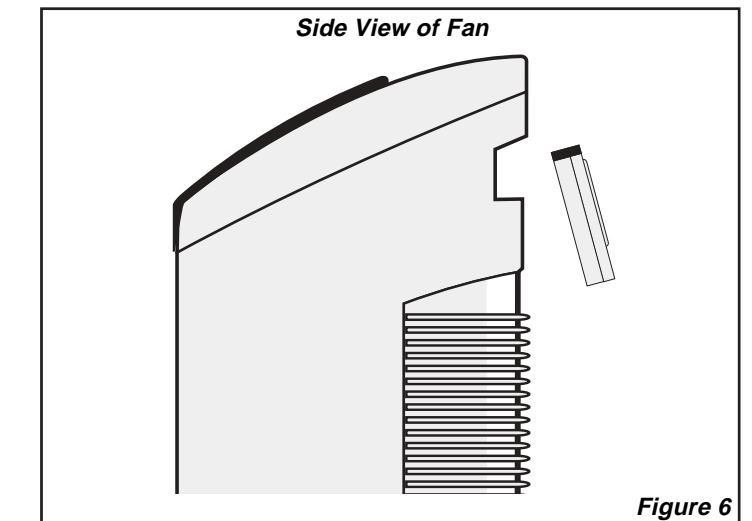

Figure 6
4. Remote control hook is located on back of Fan. (Figure 6)